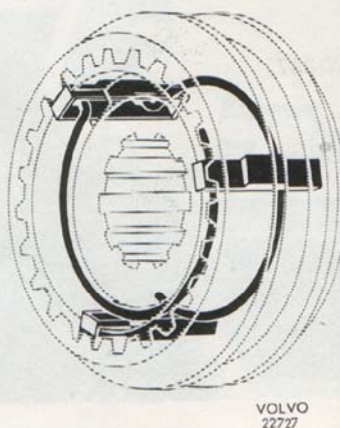

Fig. 4-11. Assembling the synchronizing
1. Put together 1st—2nd and 3rd—4th speed synchronizers. Fit the snap rings properly, see Fig. 4-11.